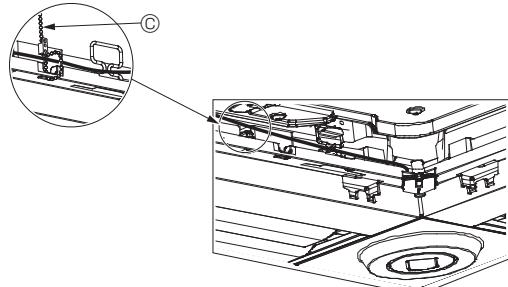

Fig. 10-12
- Secure the i-see Sensor and signal receiver wires to the panel with the fastener as shown in the diagram so that there is no slack in the wires, and then cut off the excess end of the fastener. (Fig. 10-12)
- If the position of the i-see Sensor was changed from the “○” position (E) to the “□” position (F), change the function settings. (Refer to page 13.)